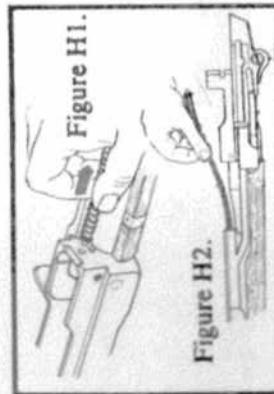

Figure H1.
6. Remove guide rod and recoil spring (Figure H1 and H2).